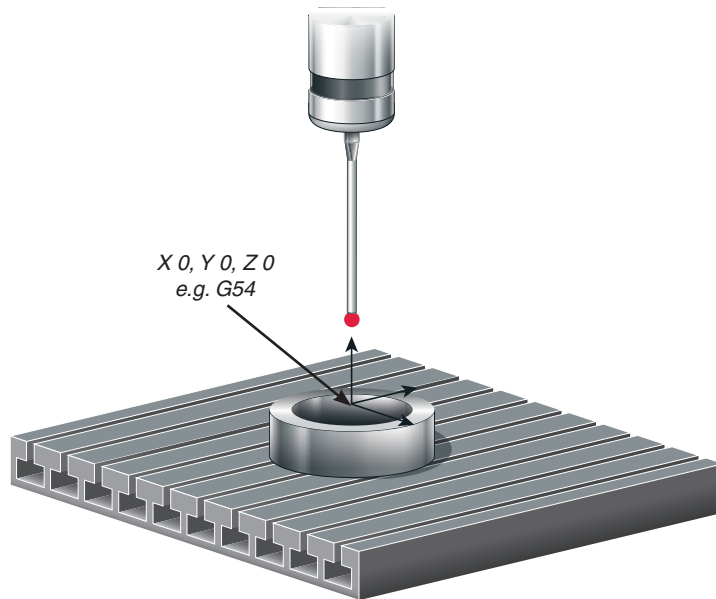

Figure 4: calibrating XY offset using a ring gauge
- As shown in figure 4, the current **work offset is now set** for X, Y, Z being zero at the centre top face of the ring gauge.